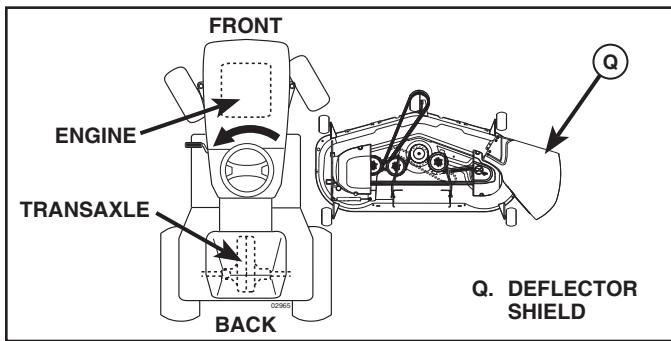

Fig. 6
3. TURN STEERING WHEEL LEFT AND POSITION MOWER (See Fig. 6)
- Turn steering wheel to the left as far as it will go and position mower on right side of tractor with deflector shield (Q) to the right.